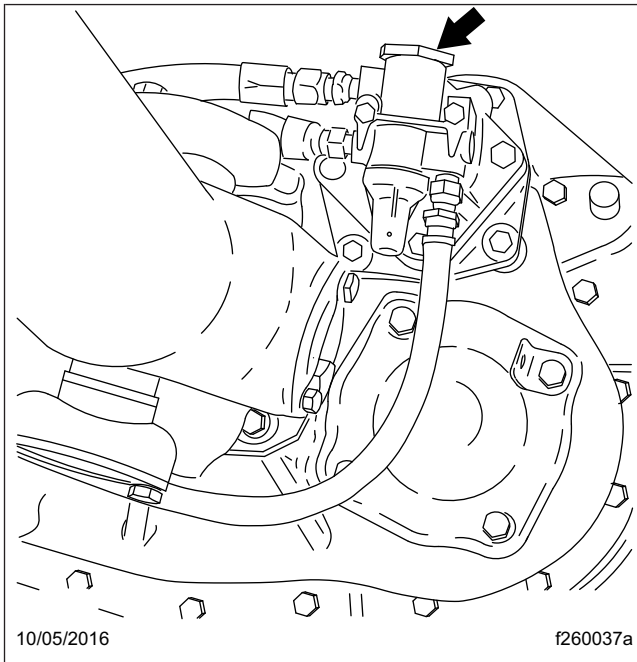

Fig. 2, Air Filter/Regulator Location (Eaton Fuller transmission shown)
2. Clean the outside of the air filter/regulator with cleaning solvent. See Fig. 2.